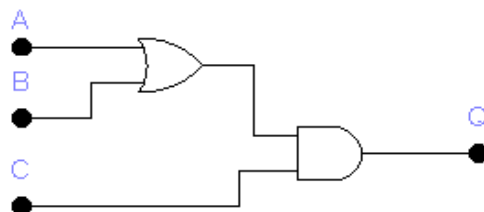

Figure 6.4
4. Write the Boolean expression for the circuit of figure 6.4.